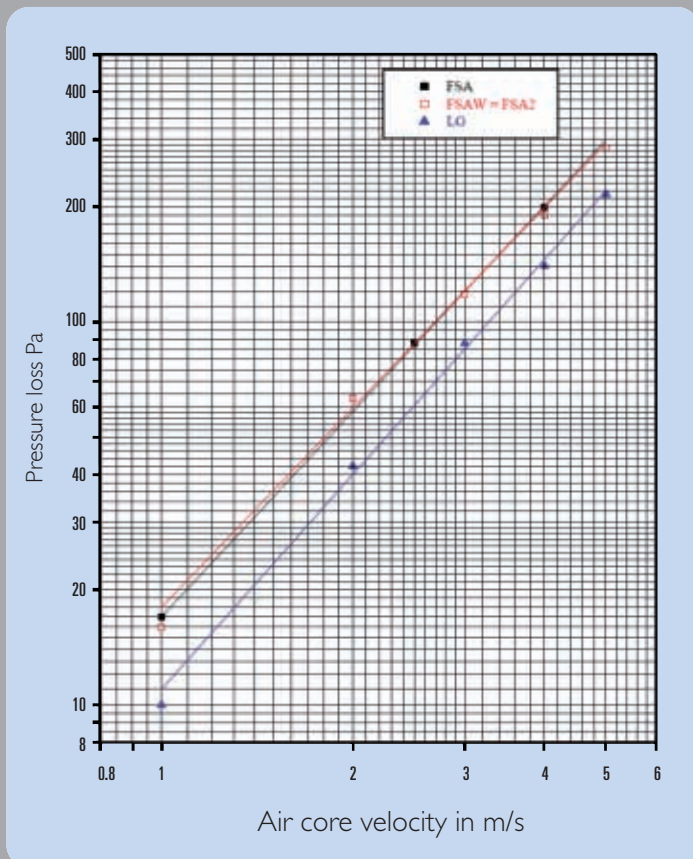

Fig. 7
- Pressure loss as in fig. 7 ▶ $\Delta P = 90$ Pa